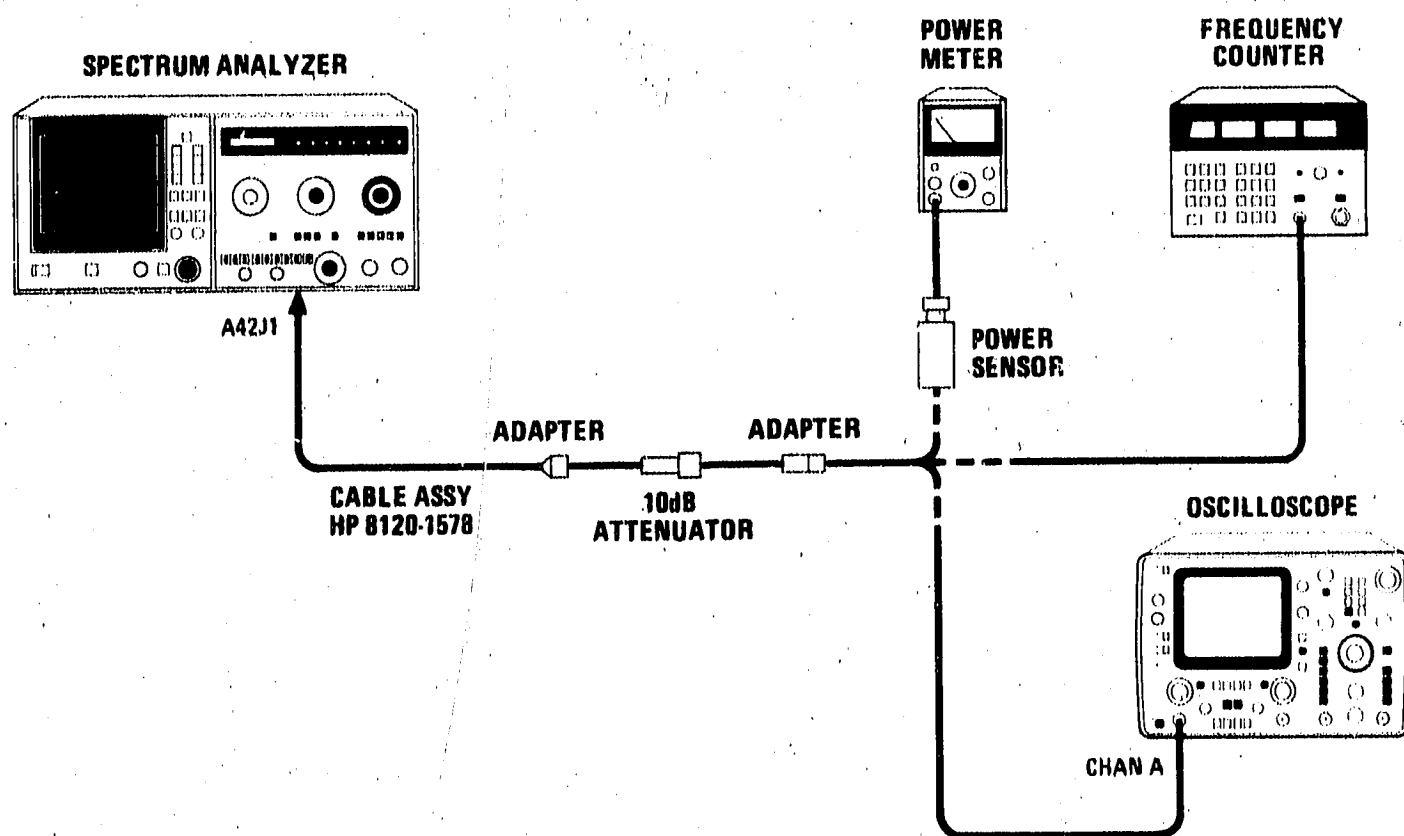
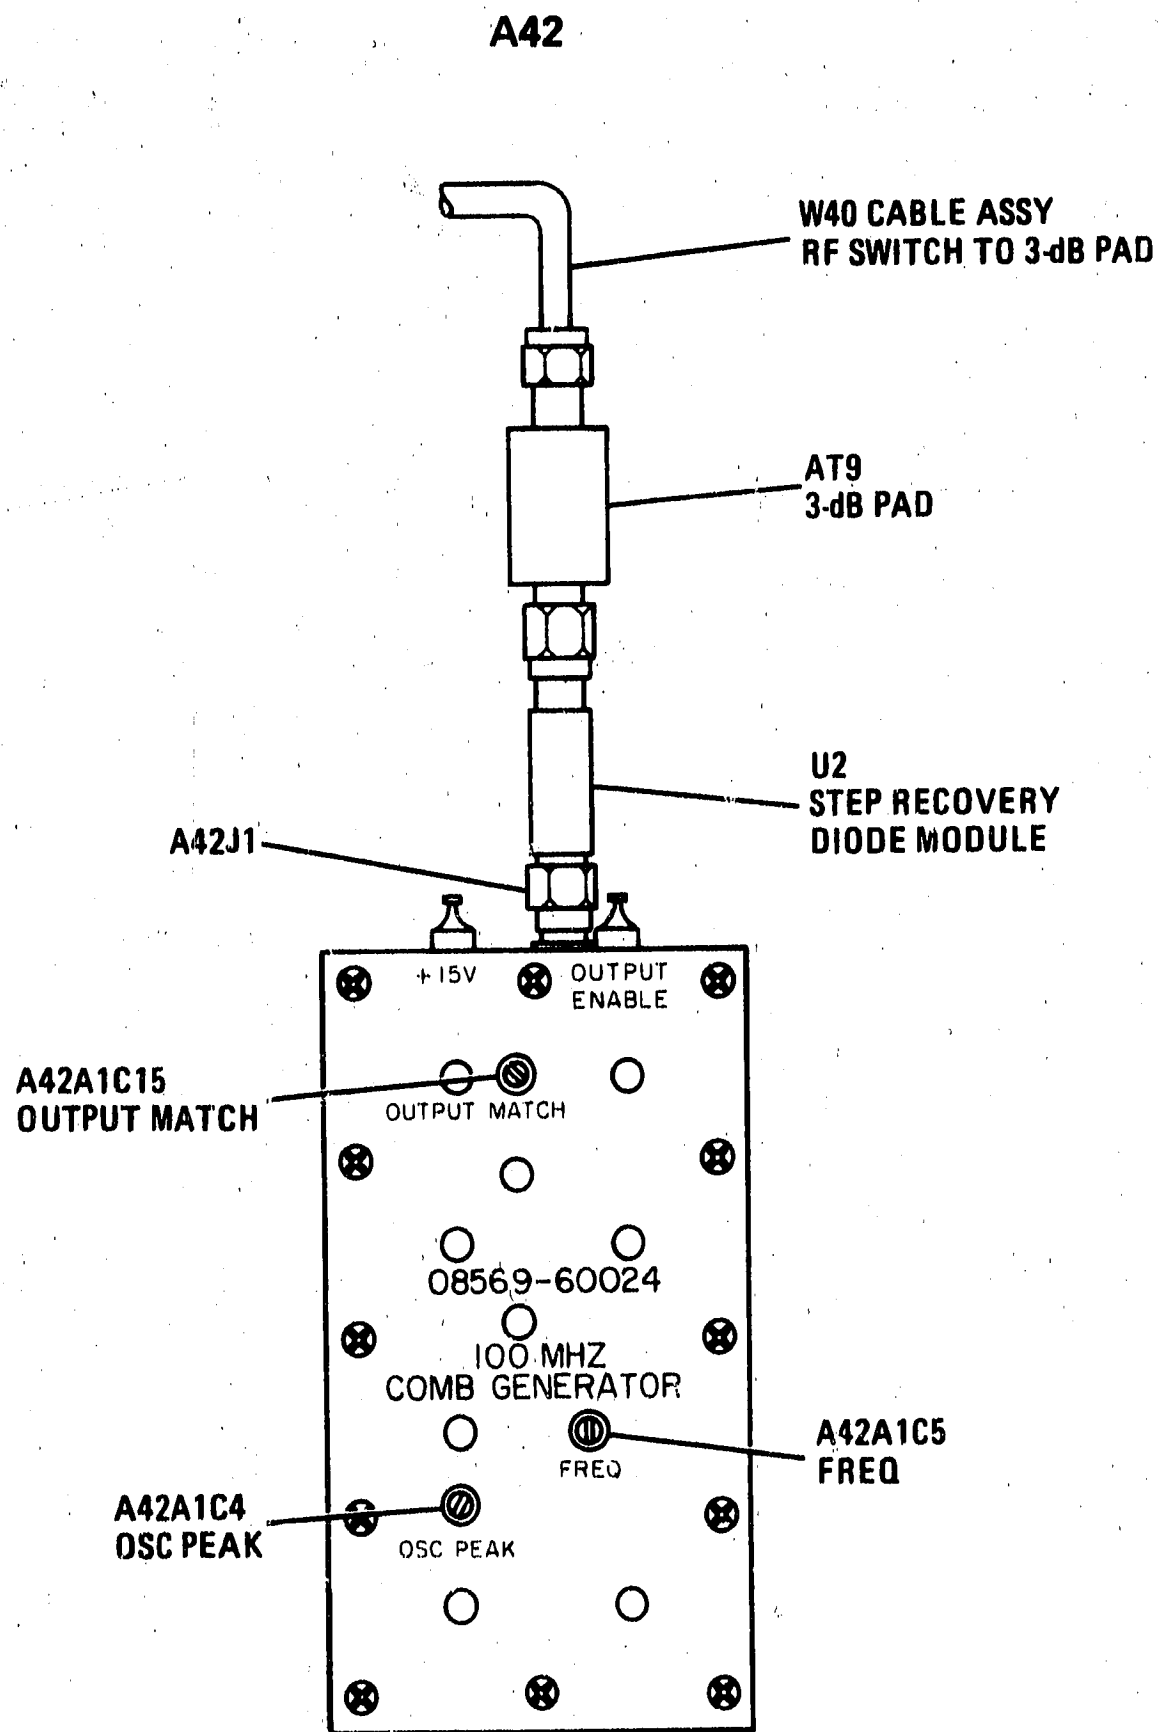

Figure 5-62. Comb Generator Adjustment Test Setup
Figure 5-63. Comb Generator Adjustment Locations
2. Connect oscilloscope as shown in Figure 5-62. Center A42A1C5 FREQ (Figure 5-63).